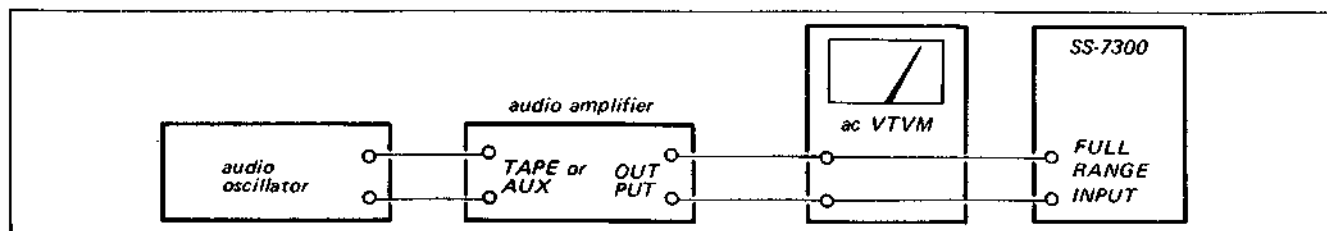

Fig. 3-1. Operational check test setup
1. With the equipment connected as shown in Fig. 3-1, feed audio signals varying from 20 Hz